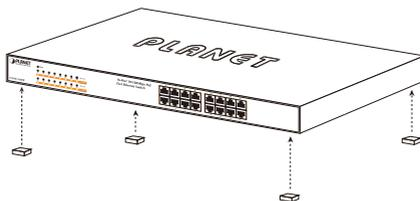

Figure 3-1: Attaching the Rubber Feet to the PoE Fast Ethernet Switch
Step 1: Attach the rubber feet to the recessed areas on the bottom of the PoE Fast Ethernet Switch, as shown in Figure 3-1.